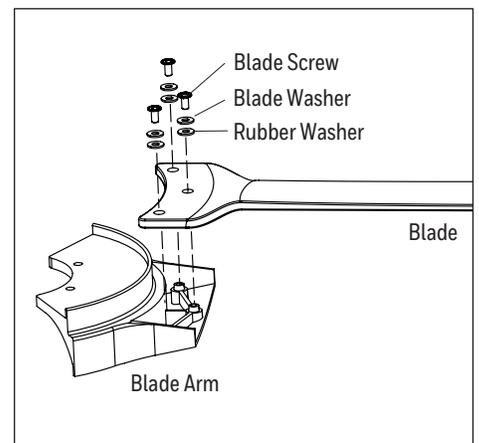

Figure 5.3
- Partially insert the blade screws along with the blade washers and rubber washers through the blade and into the blade arm. Tighten each blade screw with a Phillips screwdriver (not included), starting with the one in the middle. Repeat this step for the remaining blades and blade arms (Figure 5.3).